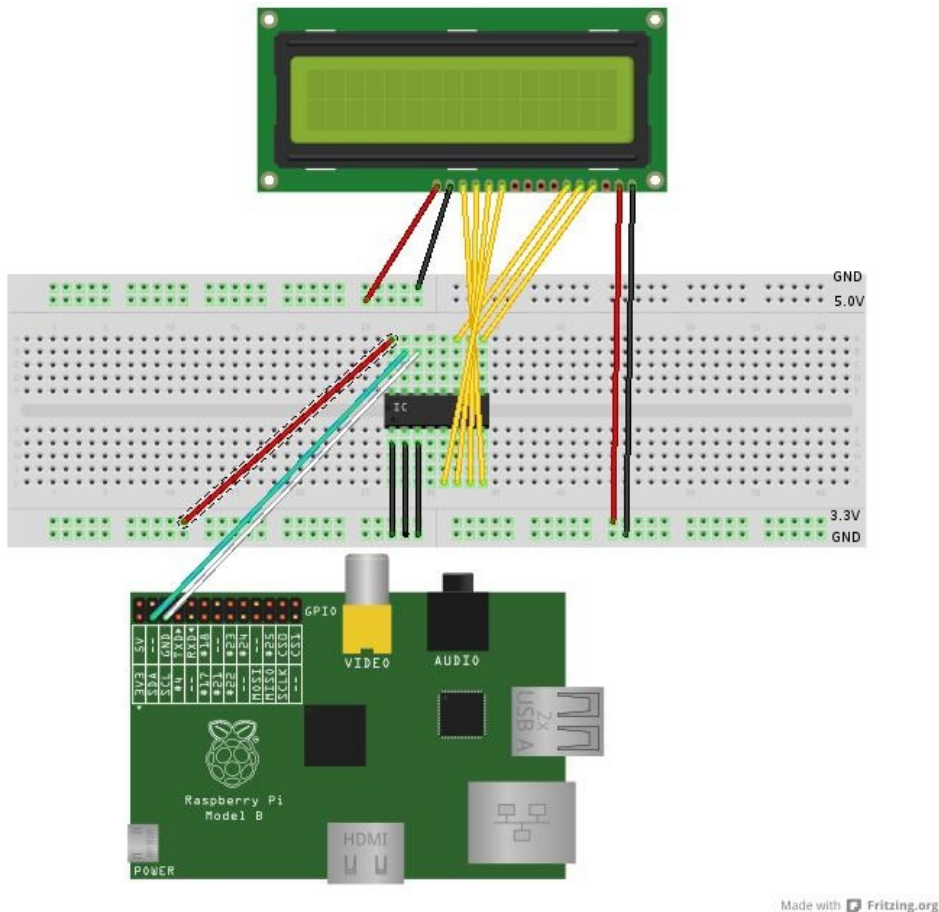
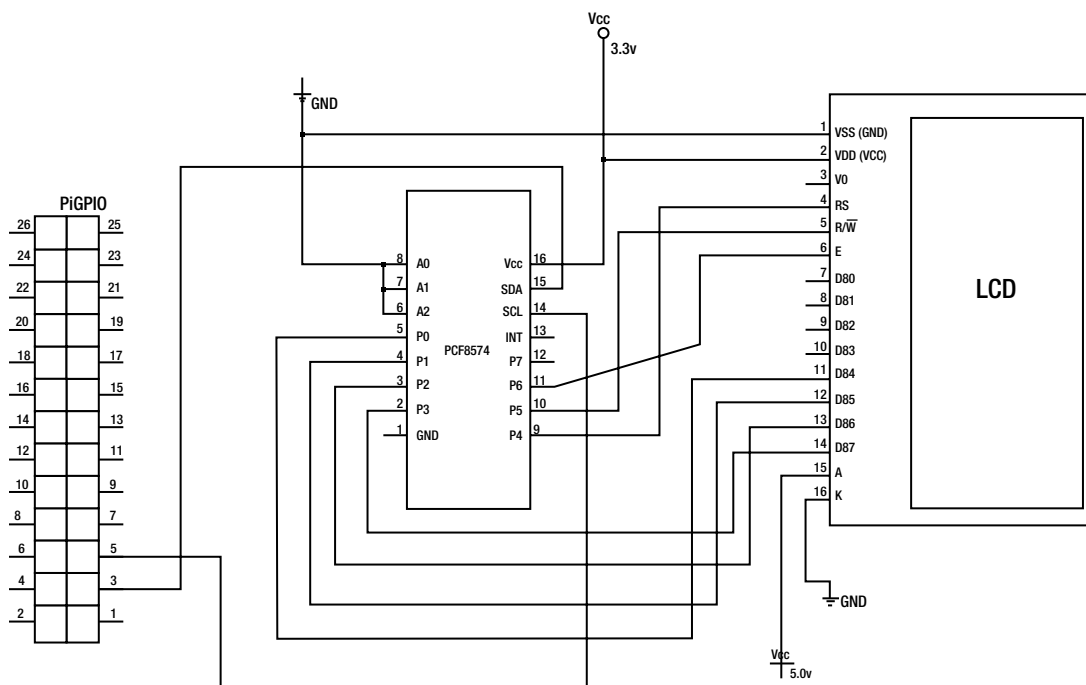

Figure 4-10. A mockup of the finished breadboard
Figure 4-11. Circuit schematic diagram
In Figure 4-10 you can see what the finished project breadboard should look like. I have used my handy USB power source to give me 3.3 V and 5 V on each side of the breadboard. Now that you can see what it should look like, let's take a look at the schematic version of this. In Figure 4-11 you can see the electronic wiring schematic for this project.
■ **Warning** Figure 4.11 is accurate according to the components I have used. Please read your data sheets and cross-check all connections. For example your register select pad on the LCD may be in a different location than mine. Check your data sheets! It takes only a small glance to feel safe in the knowledge that you have made the right connections.